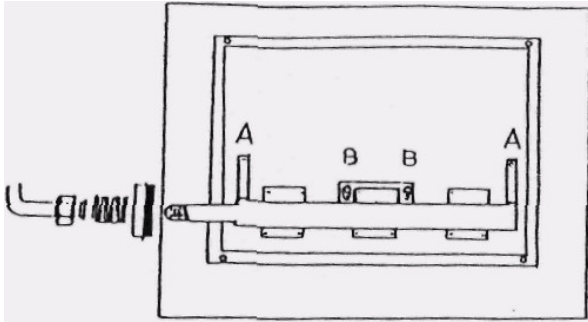

Fig. 6.7 BURNER
6.16.6 Remove the two screws A (fig 6.7) and withdraw the burner.